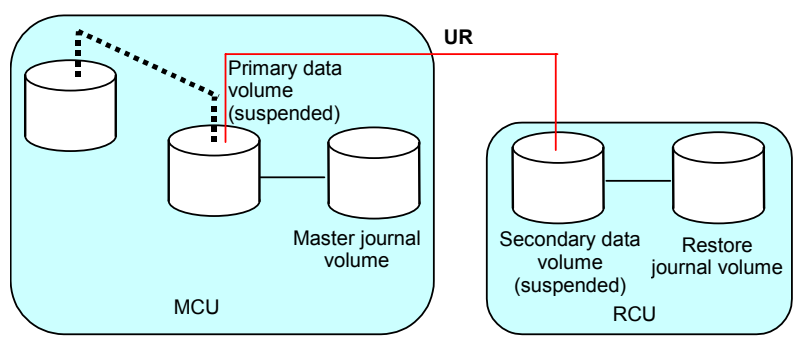

Figure 3-12 Restoring a ShadowImage P-VOL - Step 4
4. Execute the CCI **pairsplit -r** command on the UR pair to suspend the pair (see Figure 3-12).